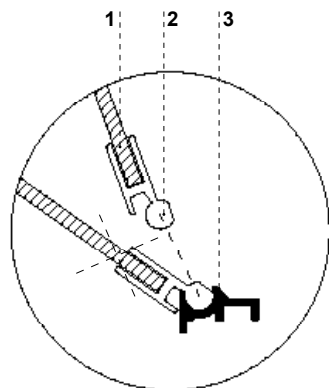

Fig.8 Disassembly of the front glass
- ⚠ When cleaning the inside of the device do not leave the front glass freely lifted within the aluminium profile. This is related with the risk of glass damage and is not covered by warranty. The glass and the profile need to be pulled out for the period of performing maintenance activities. Fig.8 (p.17).